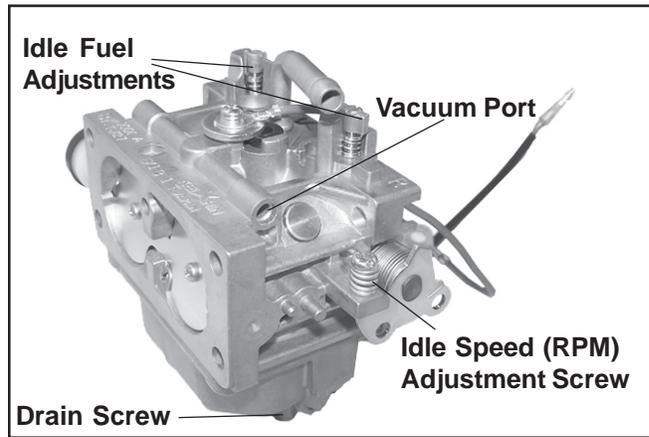

Figure 26. Keihin Two-Barrel Carburetor.
These engines use a Keihin BK two-barrel carburetor with fixed main jets, and fixed or limiter-equipped low idle fuel adjusting needles. See Figure 26. In compliance with government emission standards, the carburetor is calibrated to deliver the correct fuel-to-air mixture to the engine under all operating conditions. Adjustments are made as follows.
1. **Low Idle Speed (RPM) Setting:** Place the throttle control into the **idle** or **slow** position. Hold the governor lever away from carburetor so the throttle lever is against the Idle Speed (RPM) Adjustment Screw of carburetor. See Figure 26. Set the low idle speed to **1200 RPM*** (± 75 RPM) by turning the low idle speed adjusting screw on carburetor **in** or **out**. Check the speed using a tachometer.